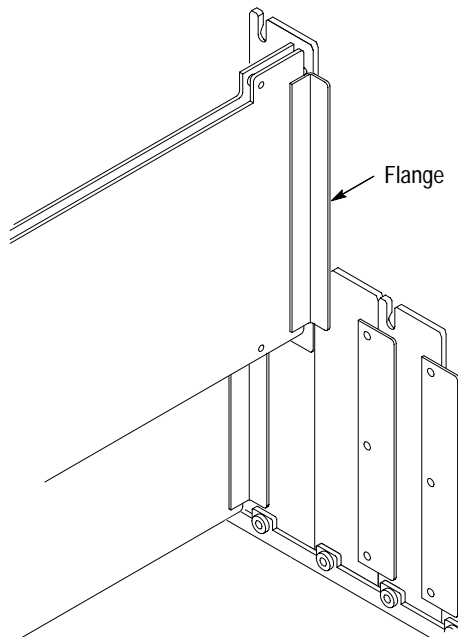
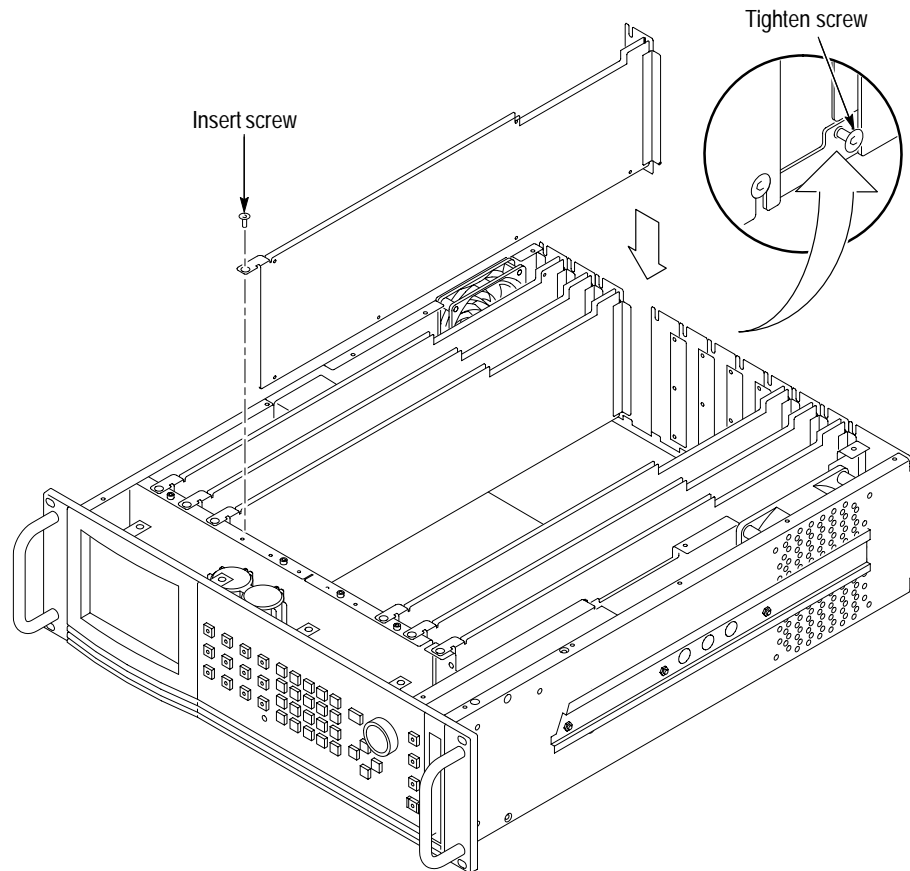

Figure C-4: Module flange
Figure C-5: Module installation
5. While ensuring correct alignment of the module flange as shown in Figure C-4, lower the module into the desired slot as shown in Figure C-5.